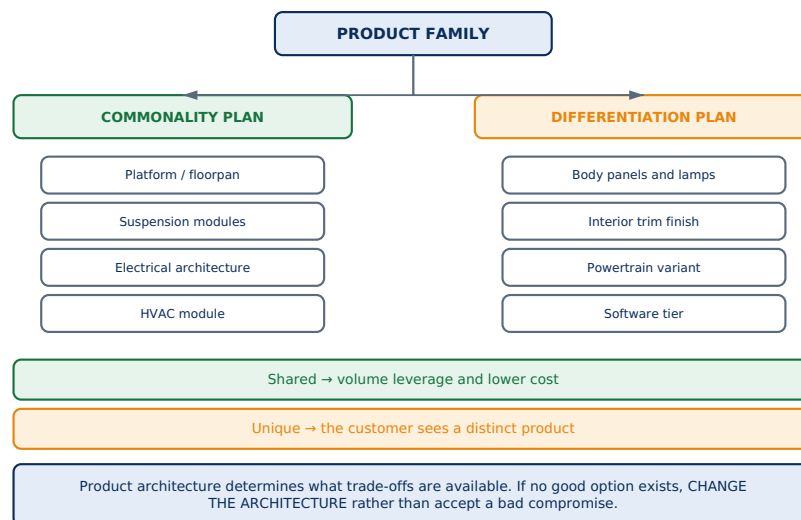

Fig 8.6 — Platform planning: commonality plan vs differentiation plan
Step 4 — Give the concrete automotive illustration. Modern platform strategies (a shared skateboard/platform with common floorpan, wheelbase-variable front and rear modules, and shared electrical architecture) let one platform produce hatchback, sedan, SUV and EV variants. The **differentiation plan** keeps body panels, interior trim and software unique; the **commonality plan** shares floorpan, suspension modules, HVAC and electrical architecture — exactly the printer-family logic in Fig 8.6.
- Build the two tables for a family of three printers (Fig 8.6), or for a vehicle family: